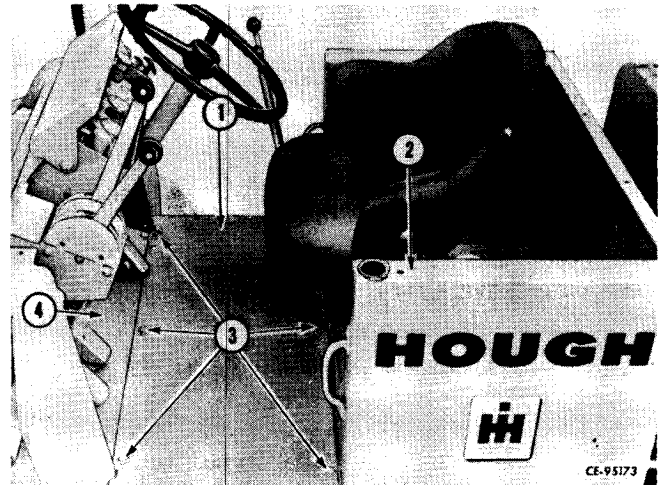

Figure 4-8
Remove cap screws (3, Fig. 4-8) that secure rear floorboard (1) to operator's compartment (2) and front floorboard (4). Remove floorboard.